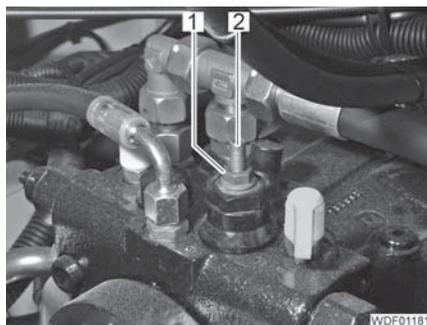

Fig. 9 Adjustment screw
- Undo the nut (Fig. 9,1).
- Turn the screw (Fig. 9,2) 1/8 of a turn clockwise: The loader moves off later.
- Turn the screw (Fig. 9,2) 1/8 of a turn counter-clockwise: The loader moves off sooner.
- Tighten the nut (Fig. 9,1).